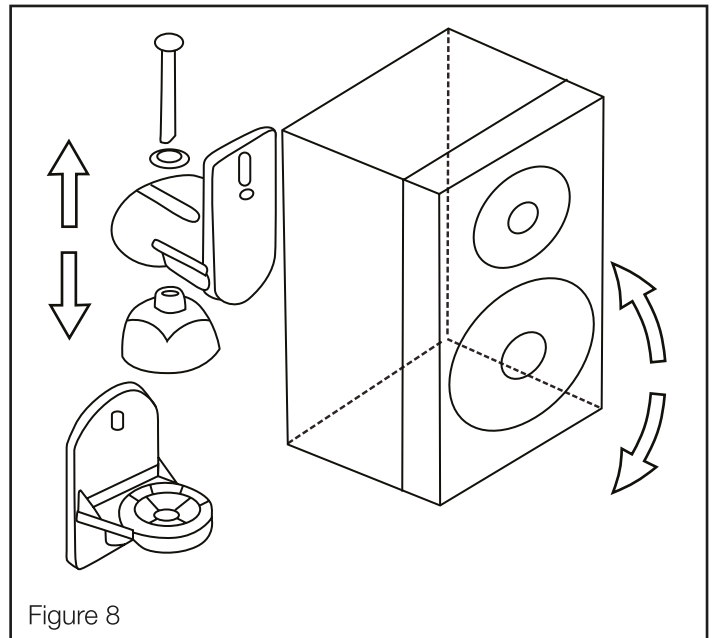

Figure 8
1. Re-assemble the speaker Wall Mounts by attaching the speaker and speaker wall plate onto the already mounted wall plate using the screw/washer and swivel that was disassembled in 'Step 1' (see Figure 8).